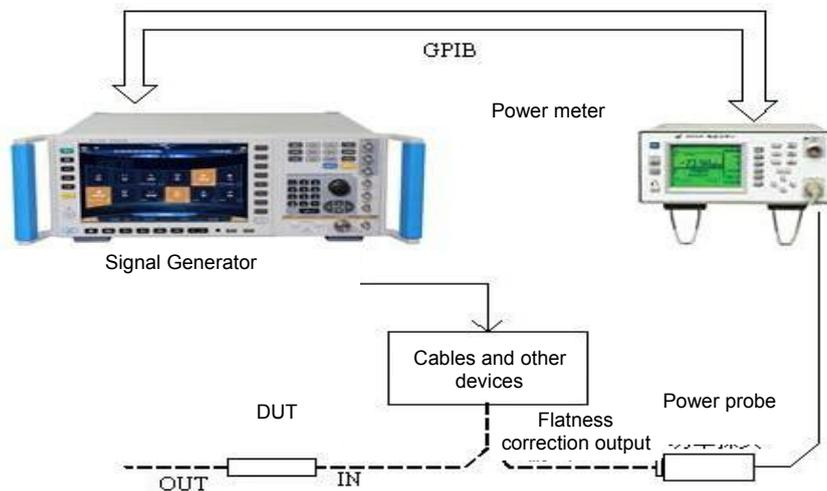

Fig.3.13 User Flatness Correction
**Step 1. Connect the instrument as shown in Fig.3.13.**